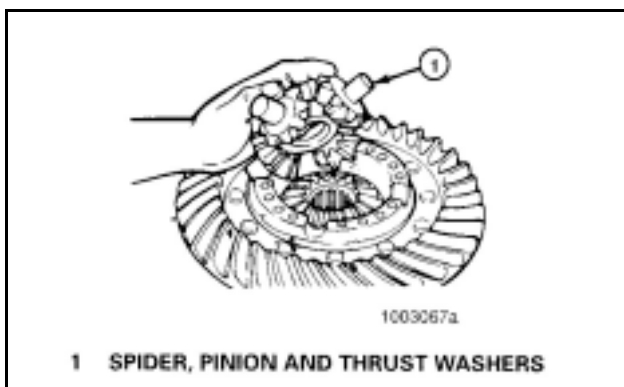

Figure 89
12. Install the spider (cross), differential pinions and thrust washers into the flange case half. **Figure 89.**